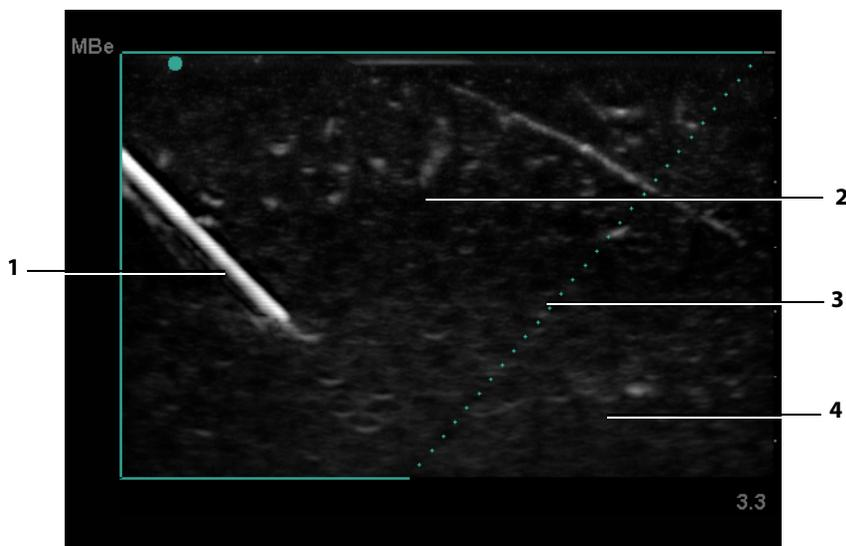

Figure 2: Image with MBe on (linear transducer)
- Note that linear structures are enhanced only in an outlined portion of the image. The area outside the outline remains unchanged. (See Figure 2.)
MBe Turns on SonoMBe imaging, which enhances linear structures within a selected angle range and can facilitate needle guidance during catheter placement and nerve-block procedures. A three- or four-sided outline indicates the affected area. (See Figure 2.)